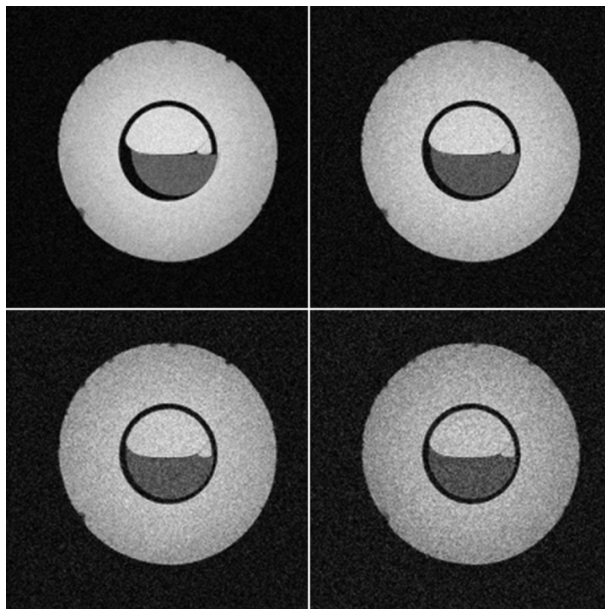

Figure 2.104: Effect of bandwidth on chemical shift artifacts
- Increase the bandwidth. This, however, decreases the SNR as shown in Figure 2.104 [571]: